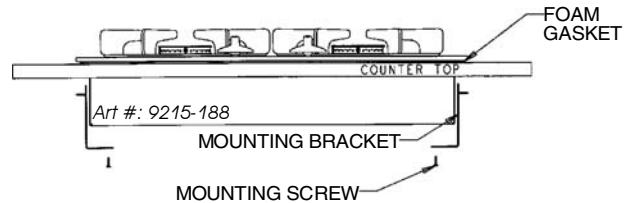

Figure 2
- Place the cooktop upside down on a protected surface and place the 1/2 x 1/2 foam strip on the underside of the glass around the perimeter of cooktop to seal between cooktop and counter. (See figure 2).
- Place the cooktop in position and fasten down with screws and mounting brackets. (See figure 2).